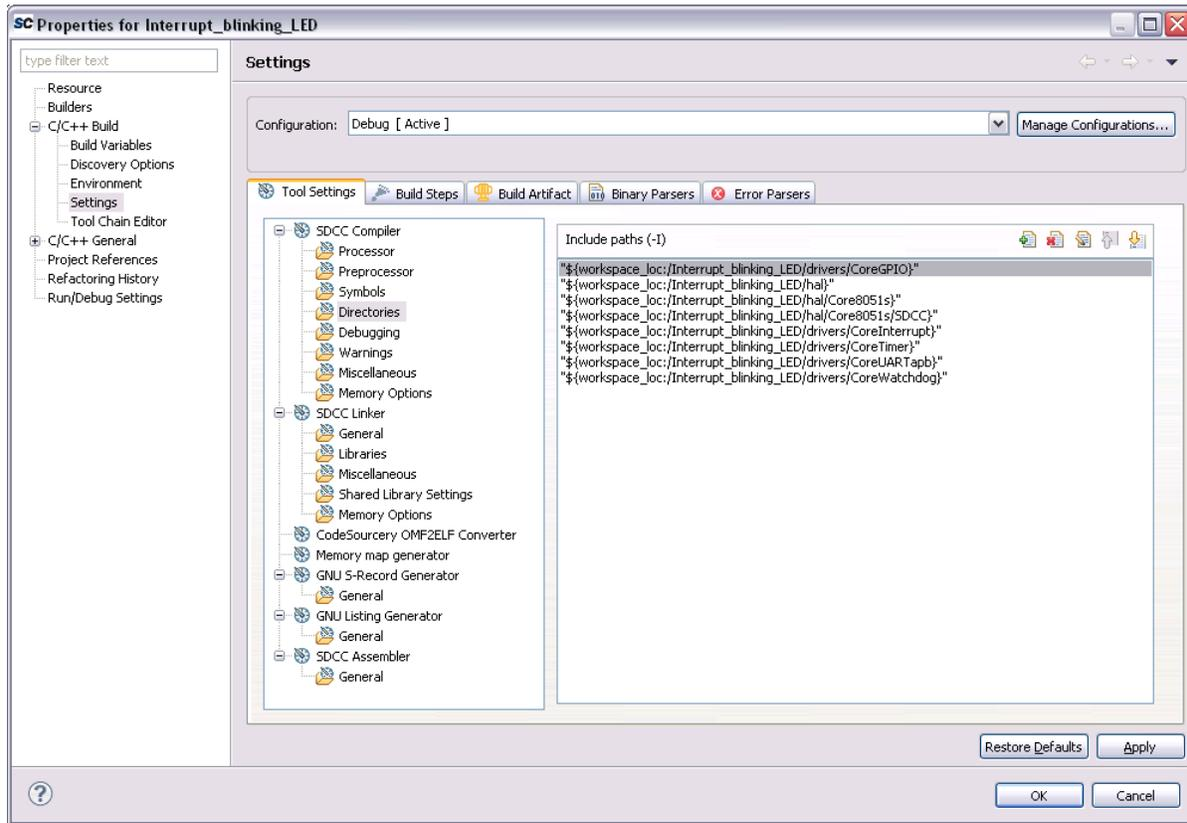

Figure 39 Include Paths
- Similarly add CoreUARTpb, CoreWatchdog, CoreInterrupt, CoreTimer, HAL, Core8051s, and SDCC. Finally the settings window is displayed, as shown in Figure 39.